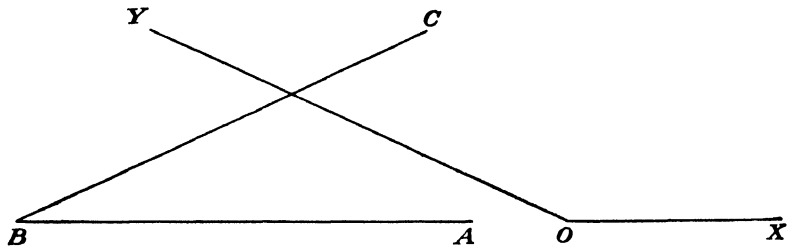

Fig. 105.
13. Draw angles equal to each of the angles in Fig. 105.
14. Draw angles equal to one-half of each of the angles in Fig. 105.